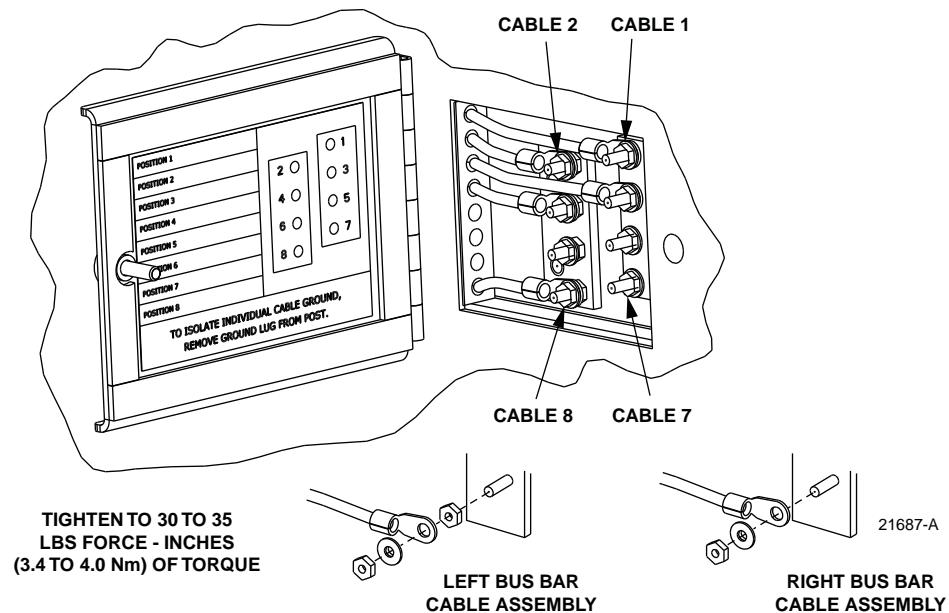

Figure 29. Cable Grounding System - Exterior View
15. Open the grounding system access cover located at the rear side of the cabinet as shown in Figure 29.